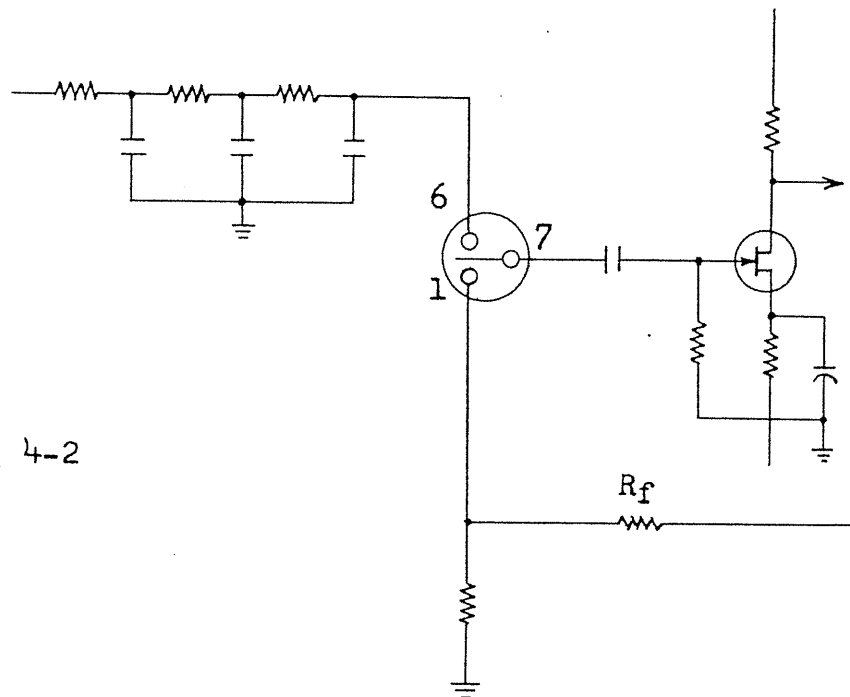

Fig 4-2
In Fig 4-2, the signal from the filter circuit is given to the terminal (6), and the signal converted to the alternating current comes from the terminal (7) into the input of the AC amplifier. There, the signal is sufficiently amplified, is synchronously rectified and becomes the output DC voltage. This output voltage is subjected to negative feedback again to the chopper terminal (1) via R_f , and improves the stability and linearity of the DC amplifier.